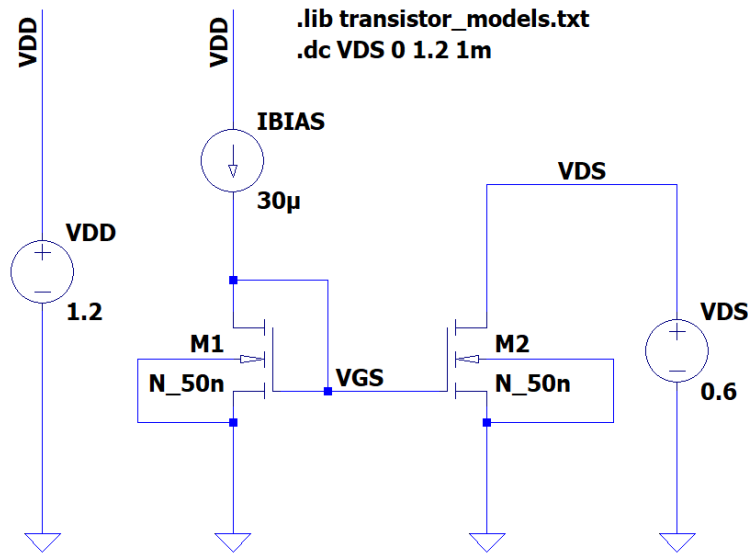

Figure 2.17 Schematic for simulating NMOS current mirror
1. Open the schematic "lab07_nmos_current_mirror.asc". You should see Figure 2.17.